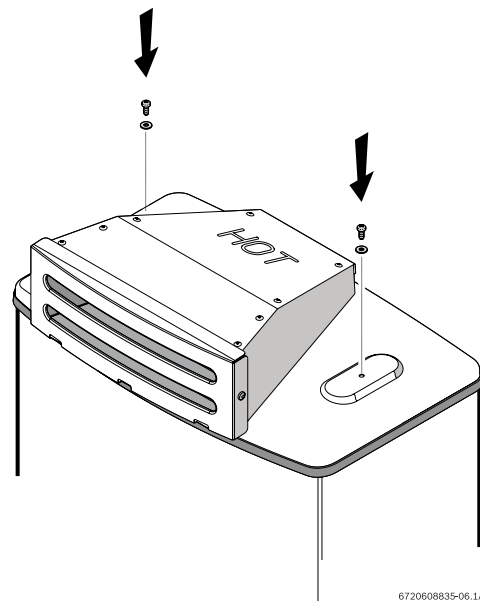

Fig. 5
- ▶ Attach the outdoor vent cap to the appliance by fastening the two provided screws and washers, see Fig. 5.